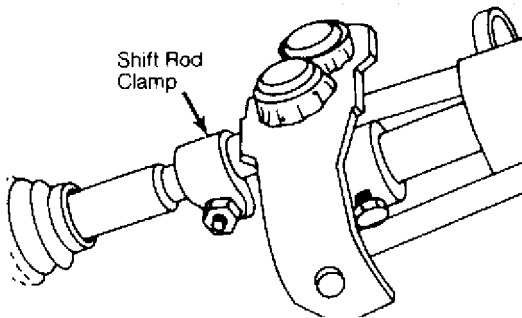

Fig. 4: Shift Rod Clamp Nut
2) Place gearshift lever in the "Neutral" position. Place lever bearing housing in center of elongated hole. Loosen shift rod clamp nut. See Fig. 4. Ensure that shift finger slides freely on shift rod. Remove gearshift lever knob and shift boot.